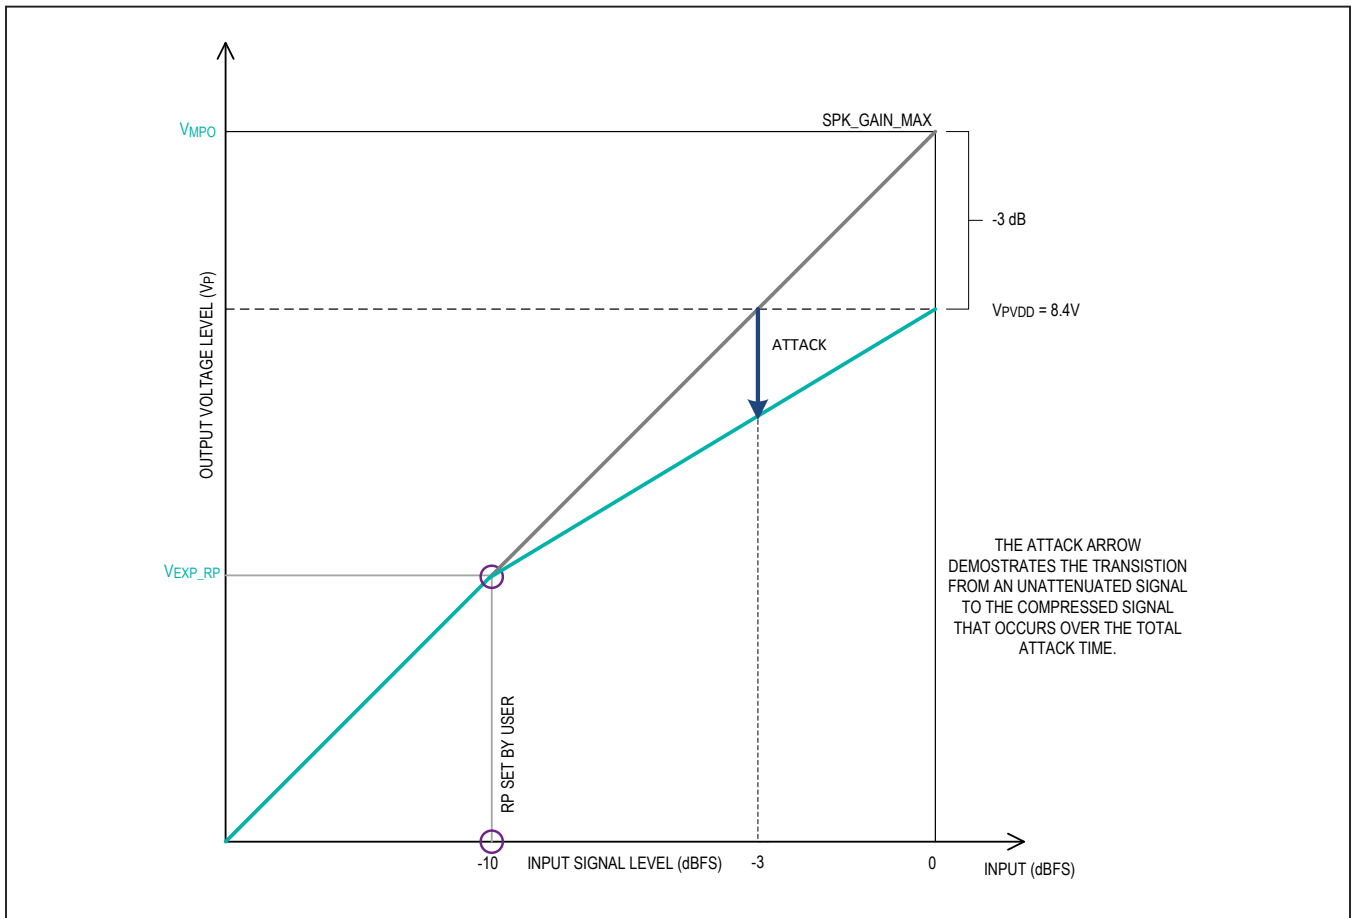

Figure 14. Dynamic Headroom Tracking Attack Functionality
When an input signal exceeds the rotation point, DHT applies attenuation to the signal over some amount of time (this is configurable through the DHT_ATK_RATE register 0x32). The instant that the large signal is input to the MAX98372, the output tries to reproduce that signal without any attenuation from the DHT. Over time, the DHT applies compression to ensure that the signal can fit within the available PVDD voltage. If a large enough input signal is applied there can be hard clipping on the output for a short time (Figure 14). However, after the full attack time has completed, there should be no clipping. Hard clipping can also be prevented by using the limiter. See the Limiter section.
where PVDD(V) is the voltage readback from the PVDD ADC, and V_{MPO} is the maximum peak output voltage (V_{MPO}), see Figure 14. For example, if V_{PVDD} = 12V and V_{MPO} = 12V, then PVDD(dBFS) = 0dBFS. It should be noted that 0dBFS is the maximum value for PVDD(dBFS). If solving Equation 1 returns a value greater than 0 then 0dBFS should be used for further calculations. This is important as DHT only ever applies attenuation and never positive gain.